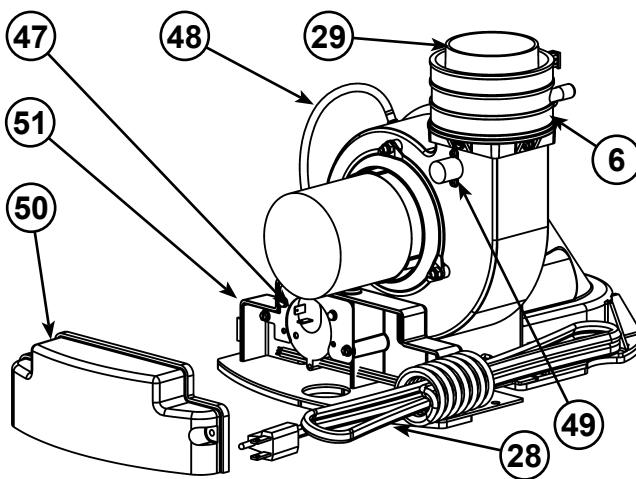

Figure 60.
- 6 Gear Clamp (see Figure 6) (see also **Figure 60**)
- 29 *Rubber Coupling (see Figure 6) (see also **Figure 60**)
47 Air Switch (inside box) (see Figure 6) (see also **Figure 60**)
48 Air Tubing (see Figure 6) (see also **Figure 60**)
49 Blower High Limit Switch (see Figure 6) (see also **Figure 60**)
50 Junction Box Cover (see Figure 6) (see also **Figure 60**)